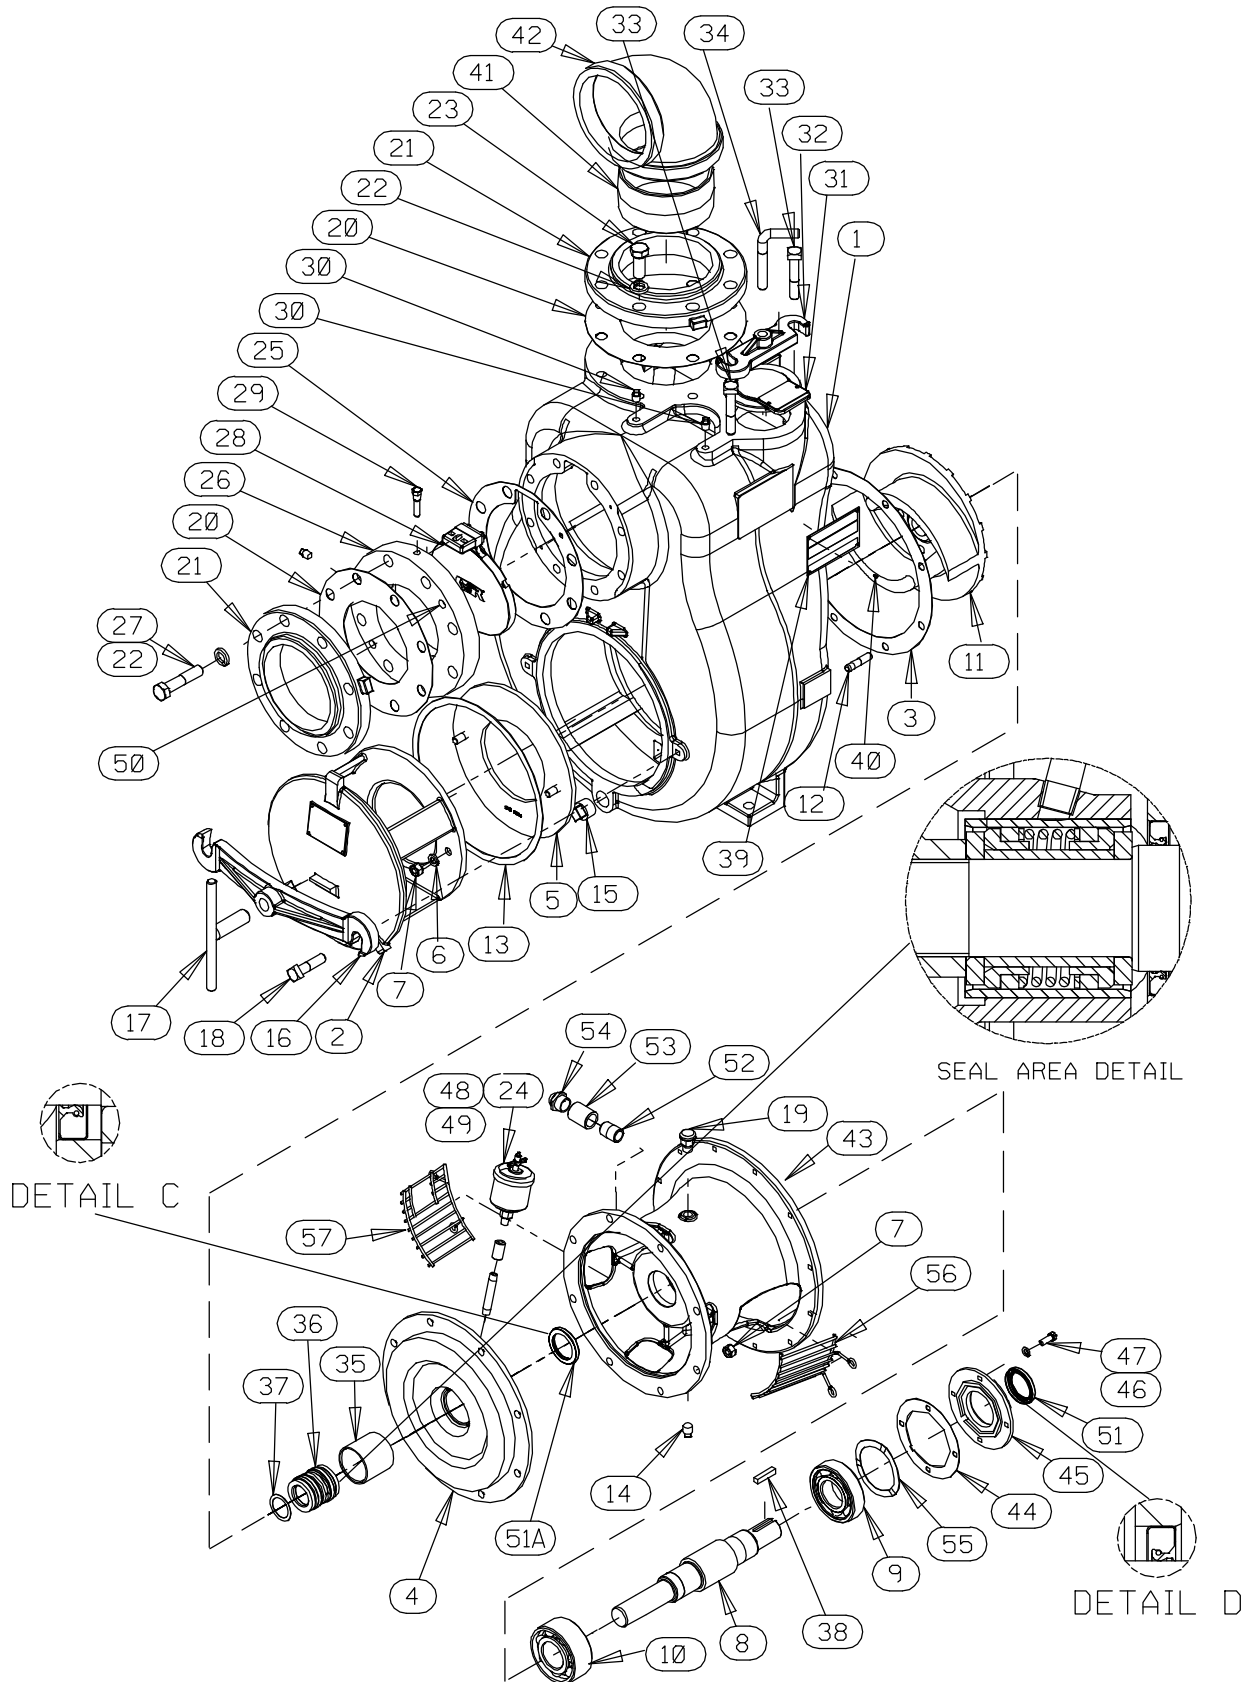

Figure 3. Pump End Assembly
(Figure 3)
Disengage the hardware (2 and 3) securing the drive assembly to the intermediate and remove the intermediate guards (56 and 57, Figure 3). Separate the pump end and drive assembly from the engine by pulling the pump end straight away from the engine.
As the assemblies separate, the flexible portion of the coupling assembly (not shown) will remain on the shaft. To remove the coupling from the shaft, unscrew the two allen head setscrews from the bushing (not shown). Screw one of the setscrews into the puller hole on the circumference of the bushing. As the coupling and bushing separate, remove the bushing, and slide the coupling off the shaft. Remove the shaft key (38, Figure 3).